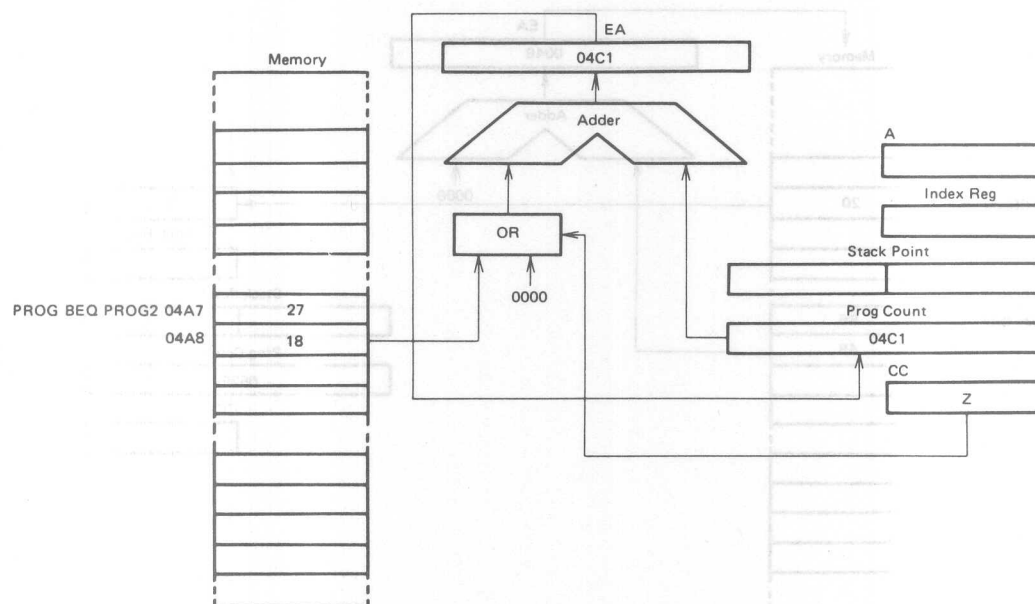

Figure 24 Example of Relative Addressing
See Figure 24. Only Branch instructions are used in relative addressing mode. When a branching takes place, the contents of the byte next to the OP code are added to the program counter. $EA = (PC) + 2 + Rel.$, where Rel. indicates signed 8 bits data at the address following the OP code. When no branching takes place, Rel. = 0. When a branching occurs, the program jumps to any byte of +129 to -127 of the current instruction. The length of the Branch instruction is 2 bytes.